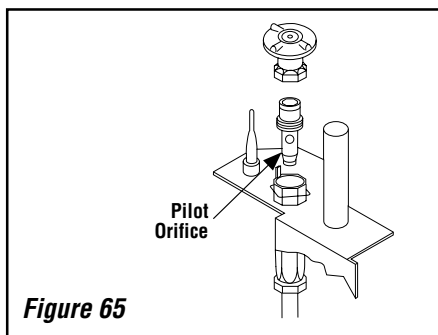

Figure 65
**Step 6.** Refer to **Figure 65 on page 28** and remove the pilot hood assembly to access the hexed pilot orifice. Remove and replace the orifice with the one provided with the kit.